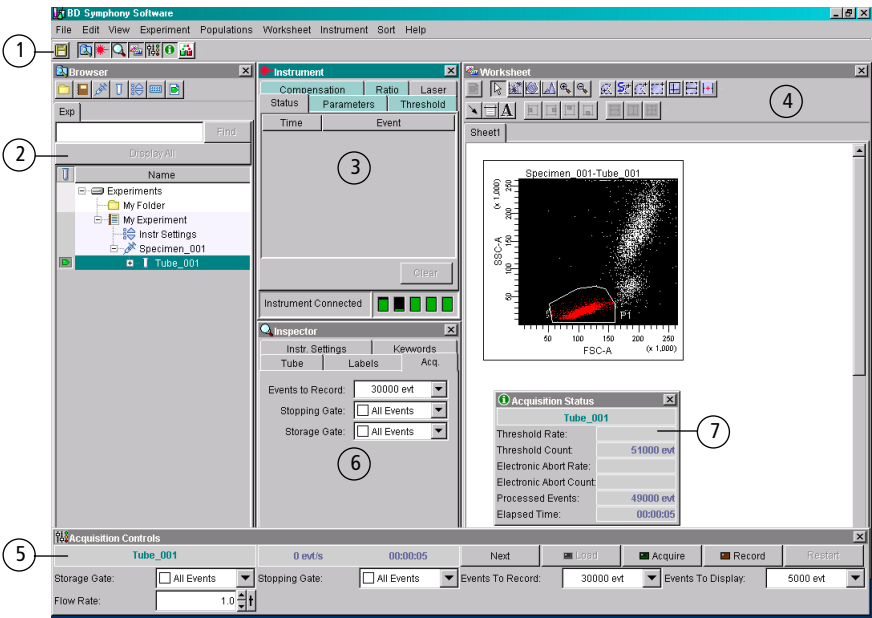

Figure 3-1 BD FACSDiVa workspace
When you start BD FACSDiVa software, the workspace appears (Figure 3-1). *Frames* containing the main application components are displayed within the workspace by clicking the corresponding buttons in the Workspace toolbar (① in the figure). Frames shown in Figure 3-1 are numbered 2–7. Two additional frames can be displayed by clicking the Sorting button in the Workspace toolbar; see Sorting Controls on page 87 for a description.